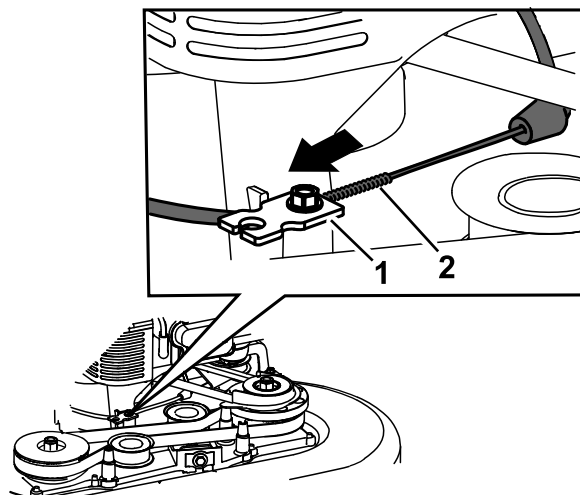

Figure 46
6. Pull the cable jacket to remove slack (Figure 46).